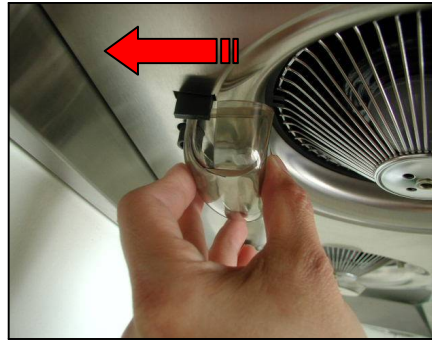

Figure 11
15. Slide oil container (oval) into plastic slot behind each safety screen as shown in Figure 11.